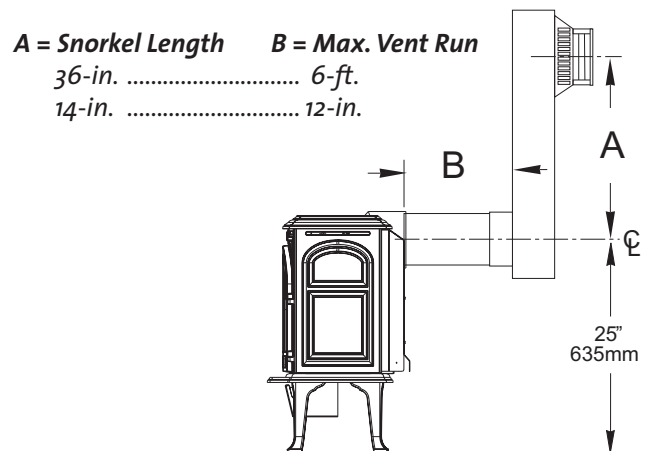

Figure 19.
- **14" Snorkel: ONLY approved for maximum 12" horizontal termination with no elbow. See fig. 19.**